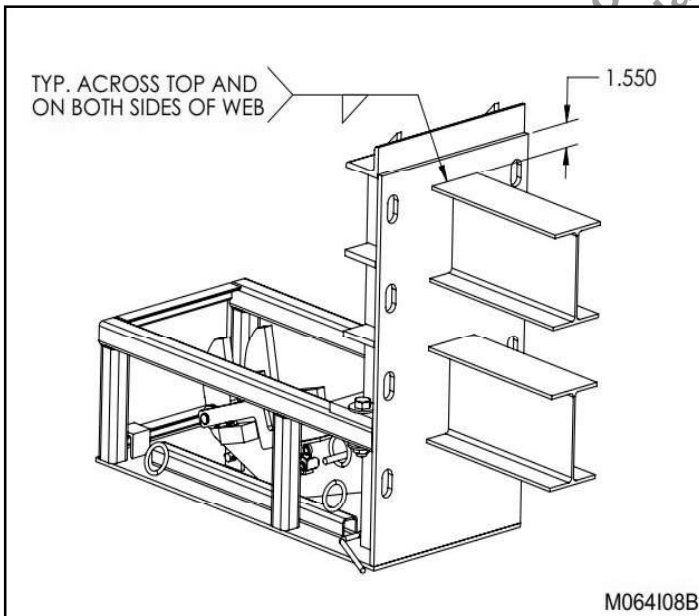

Figure 17: Extension I-Beam Assemblies
2. Position the extension I-beam assemblies to the restraint backplate as shown in "Figure 17: Extension I-Beam Assemblies" on page 21, and weld using a minimum ¼" leg on top and on both sides of the web. (Refer to the "WELDING REFERENCE INFORMATION" on page 22.)